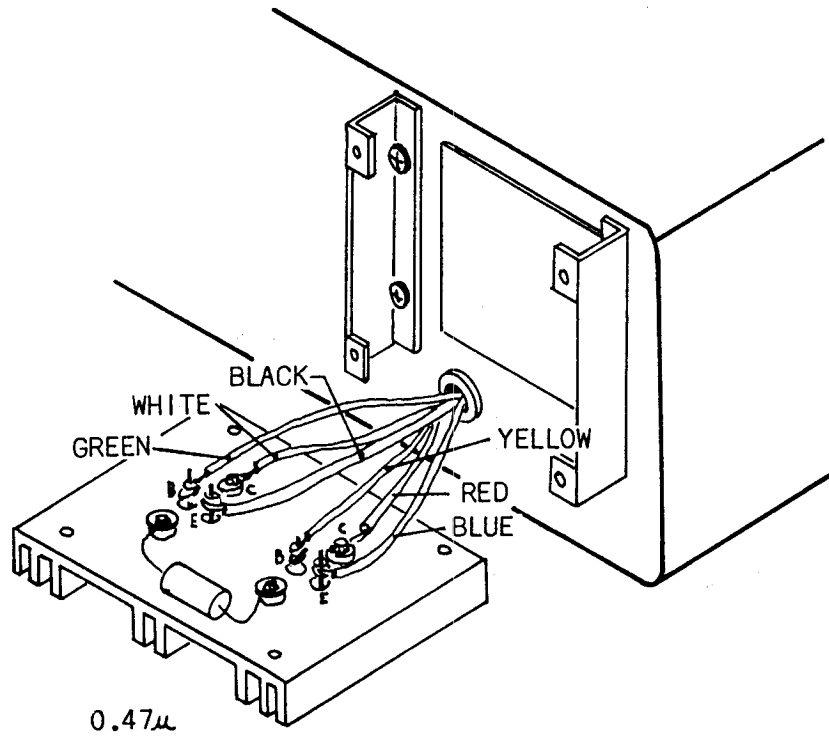

FIGURE 6-20
4. Wrap and solder the wires coming from the back panel to each transistor as shown in Fig.6-20. Make sure each wire is soldered well, but do not overheat the transistors.
If using 2SB206's, leave out the 0.47 $\mu$ f capacitor - you don't need it. Wire as shown in Fig.6-20 or below.
If using 2SB212's, use a 2.2 $\mu$ f instead of the 0.47 $\mu$ f capacitor. Wire as shown in Fig.6-20 or below.
If using 2N4280's, use the 0.47 $\mu$ f capacitor, and wire as shown in Fig.6-20 or below: